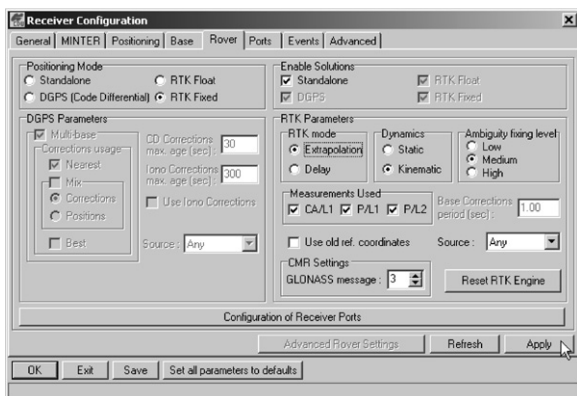

Figure 3-14. Rover Tab Configuration
5. Select the **Rover** tab and set the desired Positioning Mode (Figure 3-14).